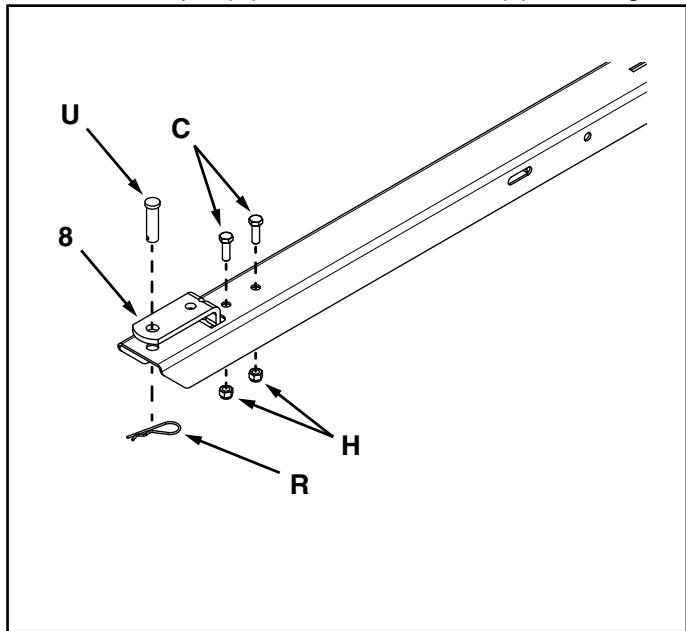

FIGURE 1
STEP 1: (SEE FIGURE 1)
2. Insert the hitch bracket (8) through the slot in the tongue and secure it with two 5/16" x 1" (C) hex bolts and 5/16" nylock nuts (H).
3. Install the 1/2" x 1-3/4" clevis pin (U) and the 5/32" hair cotter pin (R) in the hitch bracket (8) and tongue.